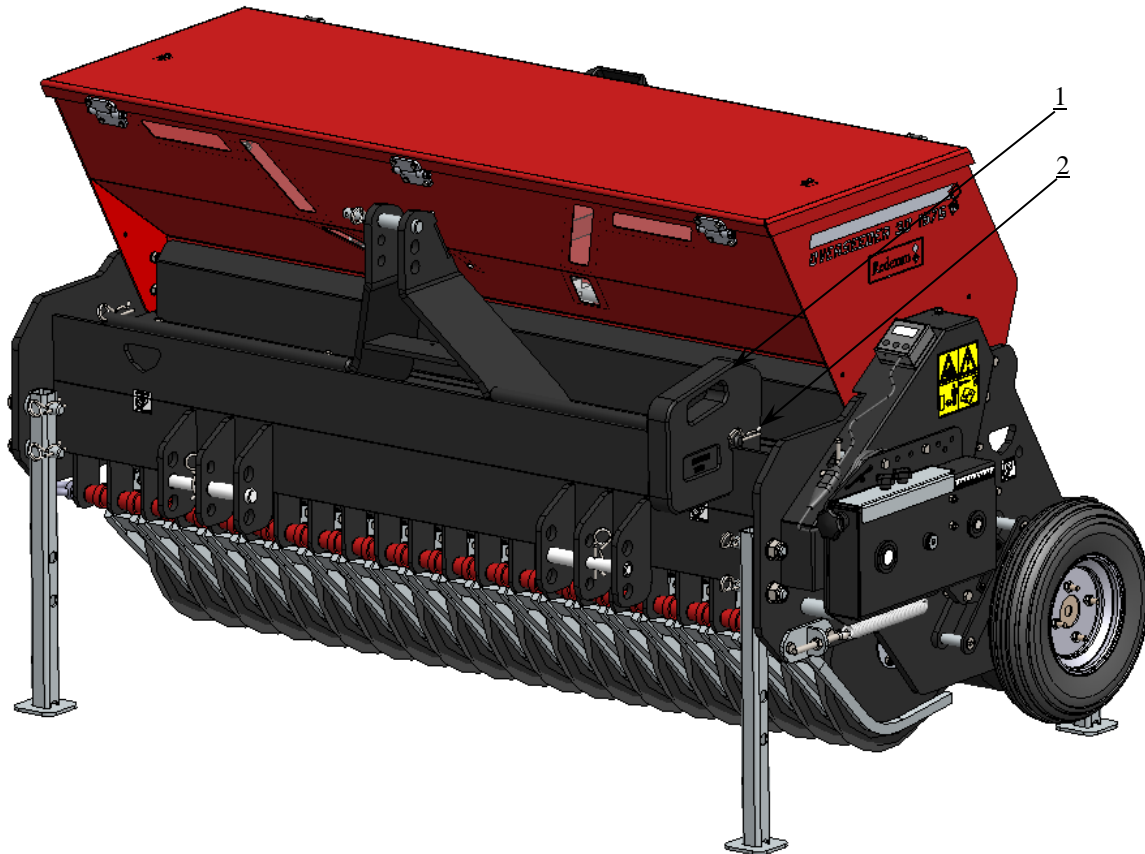

Figure 9
Standard, the Overseeder 3D is equipped with a front bar to which the weights (1) can be attached (see **Figure 9**).